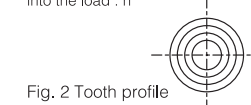

Fig. 2 Tooth profile
- ② Even if the clamp is overloaded to 120%, the cut-in depth will only be about 0.2 to 0.5 mm (differs depending upon the capacity), which is about one half that of a general clamp. Also, the tooth profile is circular, so harmful pressure marks are not left on the suspension load, thus ensuring peace of mind. (Refer to Fig. 2.)